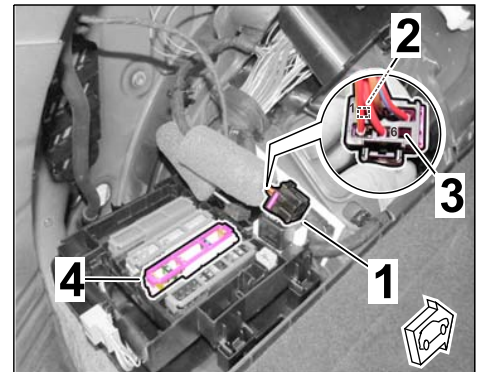

Figure 9
2.3 Check pin assignment in connector B on the vehicle side (6-pin; trailer hitch preparation ⇒ *Figure 9*).